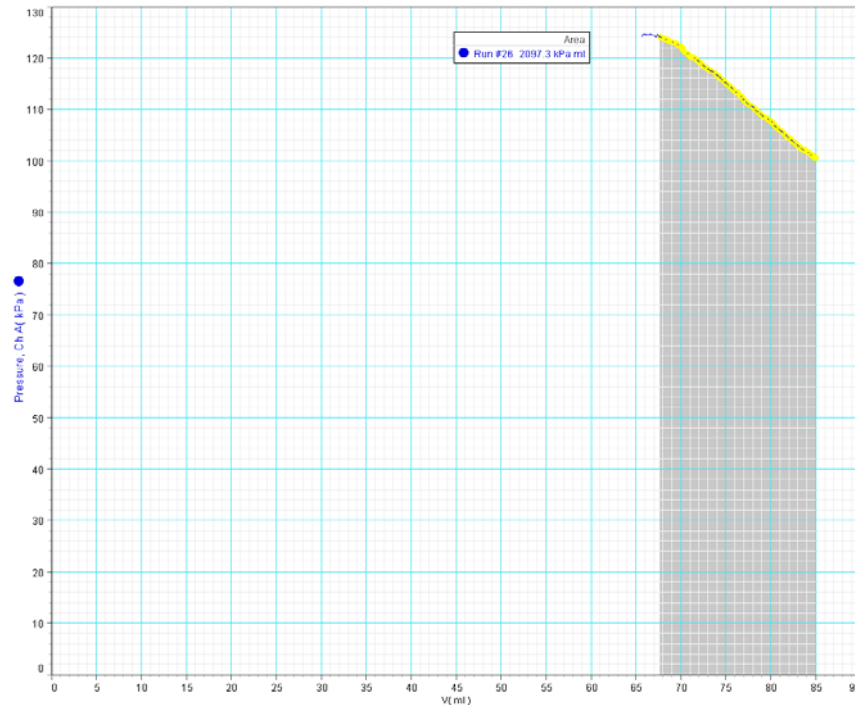

Figure 2
shows:  $2097.3 \text{ kPa.ml}$  (see Figure 2). The peculiar unit is rewritten and the number is rounded to  $2.1 \text{ J}$ .
**Explanation:** With a load of  $2 \text{ kg}$  on the piston having an area of  $8.3 \text{ cm}^2$ , we get a pressure of  $\frac{2 \times 10}{8.3 \times 10^{-4}} = 0.241 \times 10^5 \text{ Pa}$ . So the pressure inside the cylinder rises from  $1 \times 10^5 \text{ Pa}$  to  $1.241 \times 10^5 \text{ Pa}$ . Just calculation, using Boyle's law,  $p_1 V_1 = p_2 V_2$  gives:  $V_2 = 68.5 \text{ cm}^3$ . This is very close to what the pV-graph shows in its measurements of final pressure and final volume (read the values in Figure 2; do not look at the final 'horizontal' part of the graph, because that part is caused by leakage).